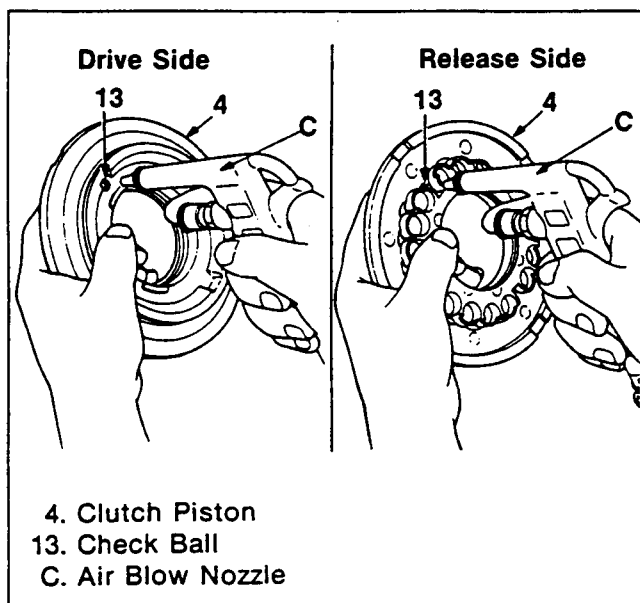

Figure 135. Piston Check Ball Function Check
- Blow air 294 – 392 kPa (42 – 56 psi) to the check ball from both the drive and release sides and check movement by finger (figure 135).